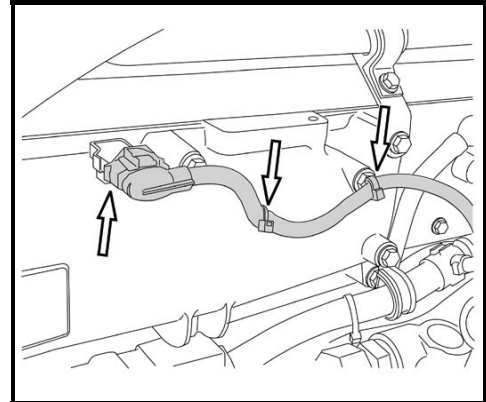

FIGURE 20
11. Connect the harness to the intake manifold air temperature/pressure sensor on the intake manifold (fig. 20). Install nylon cable ties and P-clamps as necessary.